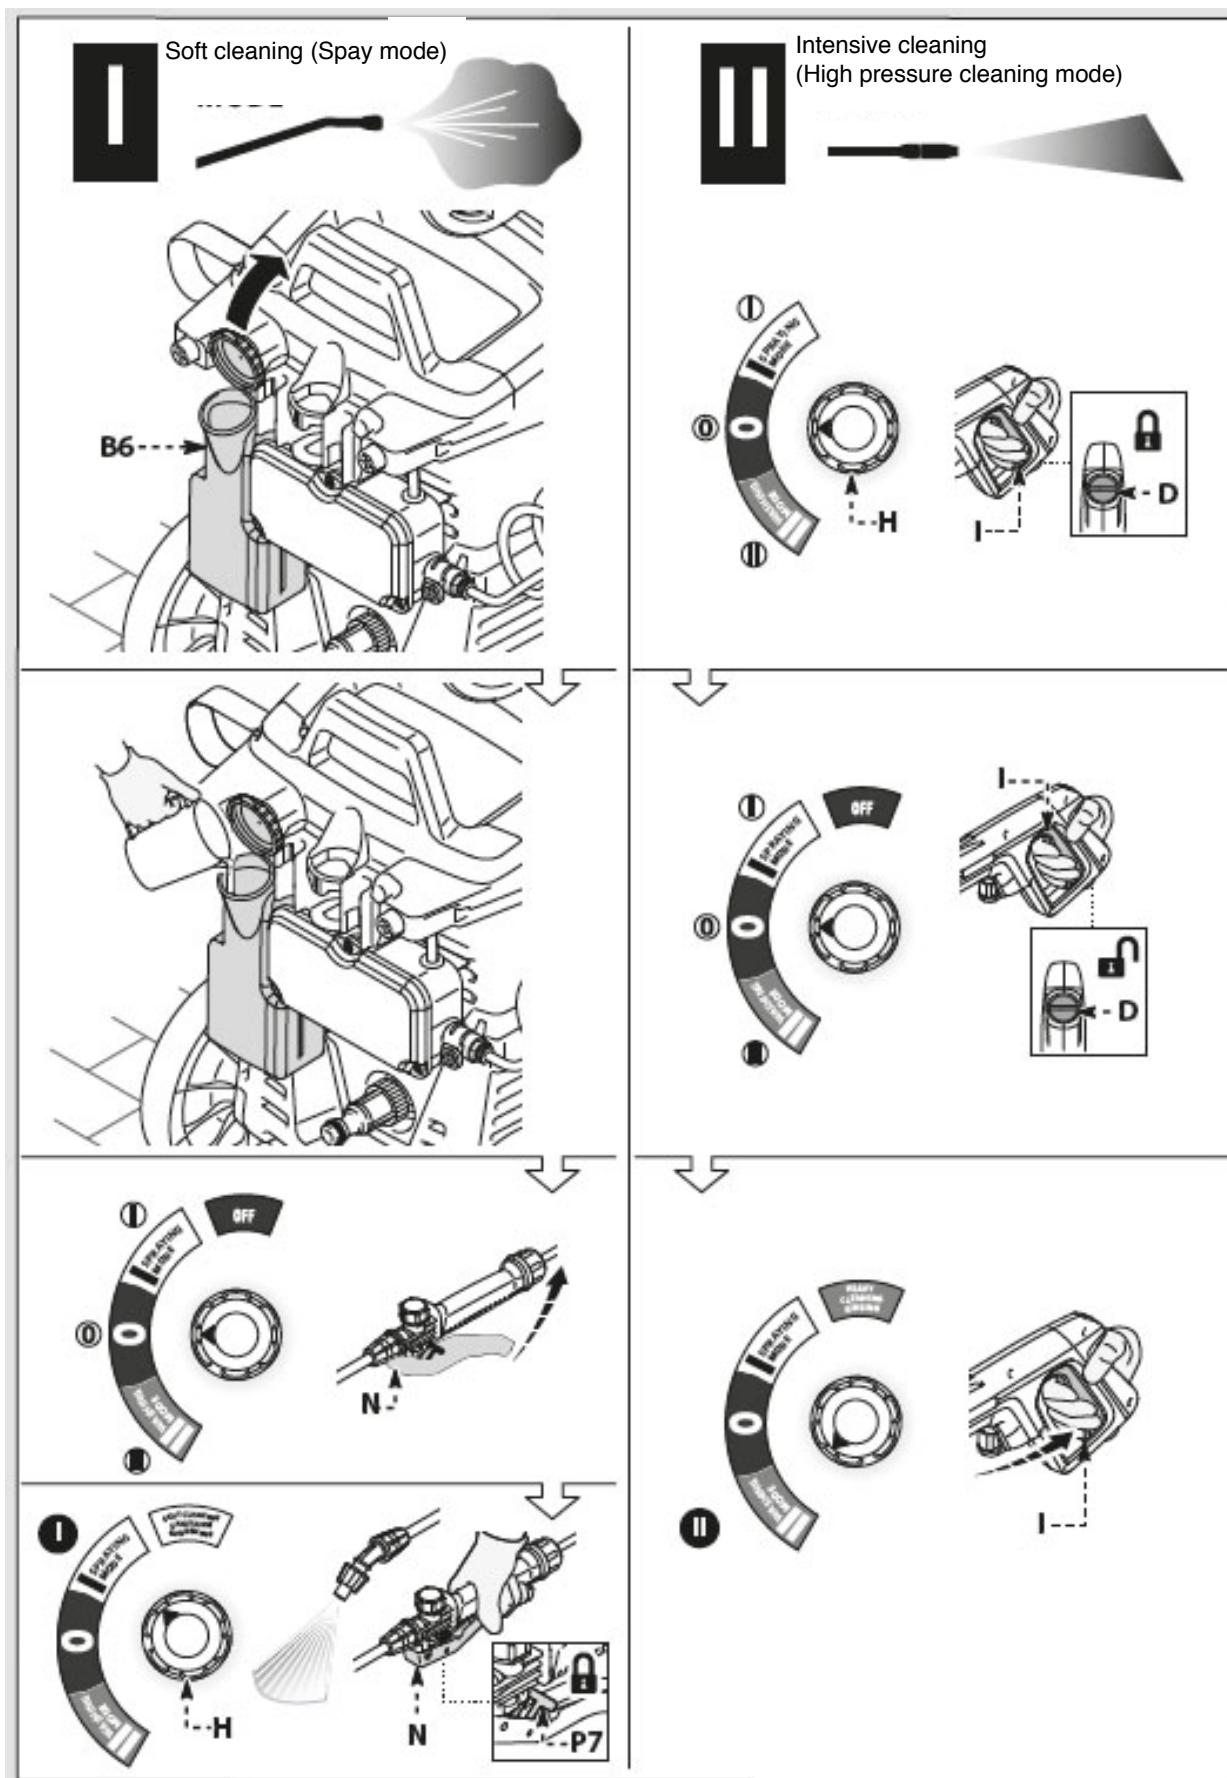

Fig. 8: Operation
- Step 1: Fill the tank (pos. B6, fig. 8).
- Step 4: Fill the solution into the tank (fig. 8).
- Step 5: Spray mode: Set the appliance switch (pos. H, fig. 8) to the ON / I position. Press the spray gun handle (pos. N, fig. 8) to release delivery; actuate the spray gun lock (pos. P7, fig. 8) to maintain delivery.
Cleaning mode: Release the lock on the gun (pos. D, fig. 8). Hold the lever (pos. I, fig. 8) of the gun pulled for a few seconds and then switch on the appliance with the appliance switch (ON / II).
Step 1: Set the appliance switch (pos. H, fig. 8) to the OFF / 0 position.
Step 3: Press the handle of the gun (Spray mode: pos. N, fig. 8; Cleaning mode: pos. I, fig. 8) to release the pressure from the pipes.
Step 5: Actuate the lock (pos. D, fig. 8) of the gun.
Step 1: Release the lock (pos. D, fig.8) of the gun.
Step 3: Switch the appliance switch (pos. H, fig. 8) to the switch position (ON/I or ON/II).